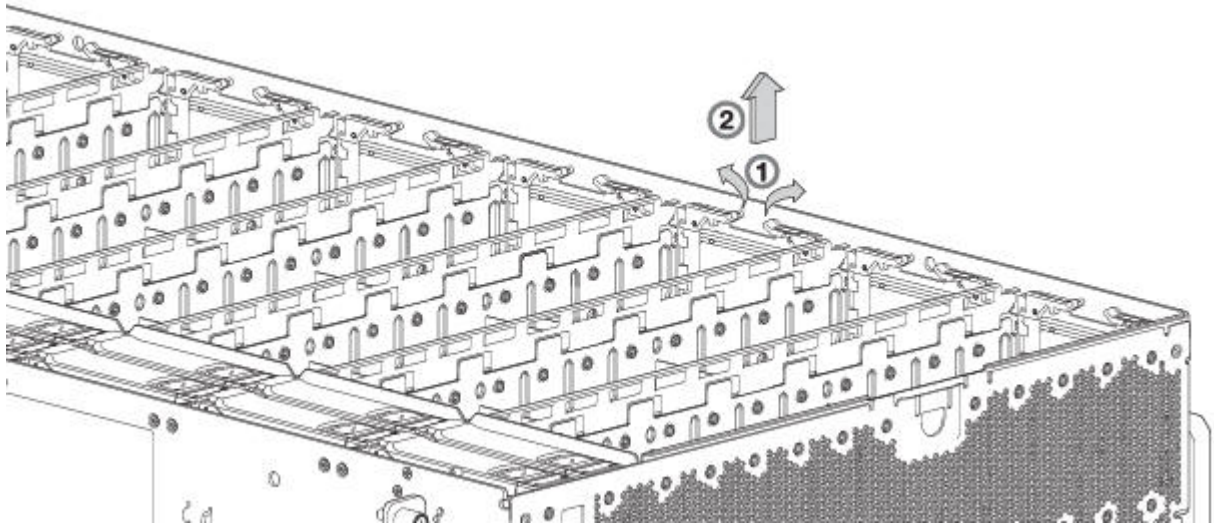
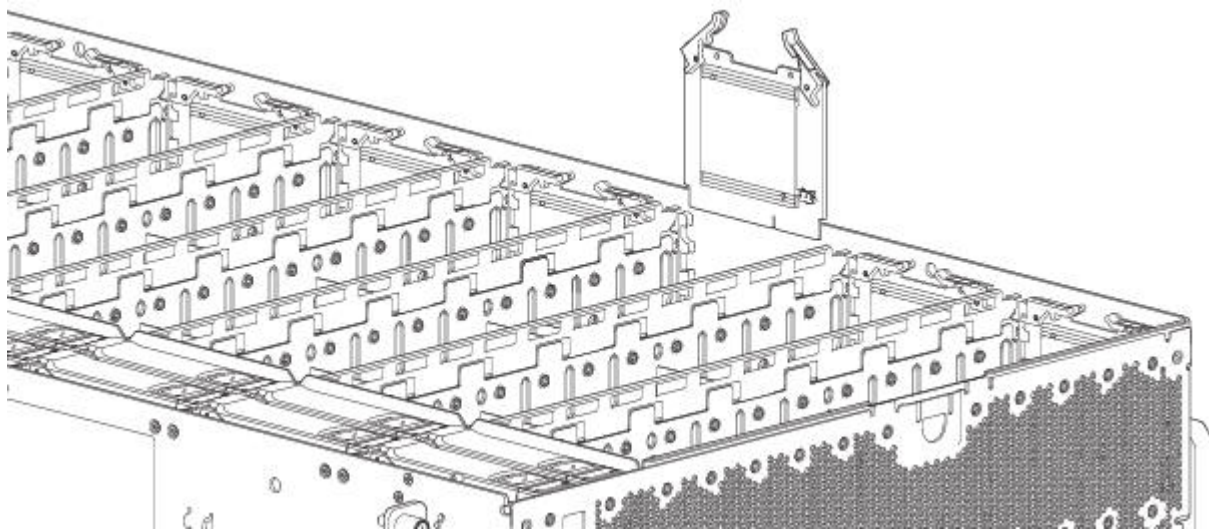

Figure 68. Removing a HS Expander (1 of 2)
Figure 69. Removing a HS Expander (2 of 2)
2. On the faulty HS Expander, grasp each of the two plastic swing-arms between thumb and index finger as shown in Figure 68 on page 74.
3. Revolve each swing-arm upward to release the PCBA carrier from its slot as shown in Figure 69 on page 75.
Refer to Figure 68 on page 74 and Figure 69 on page 75 when performing this procedure, but ignore the directional arrow—since you will insert the module into the slot—rather than remove it.